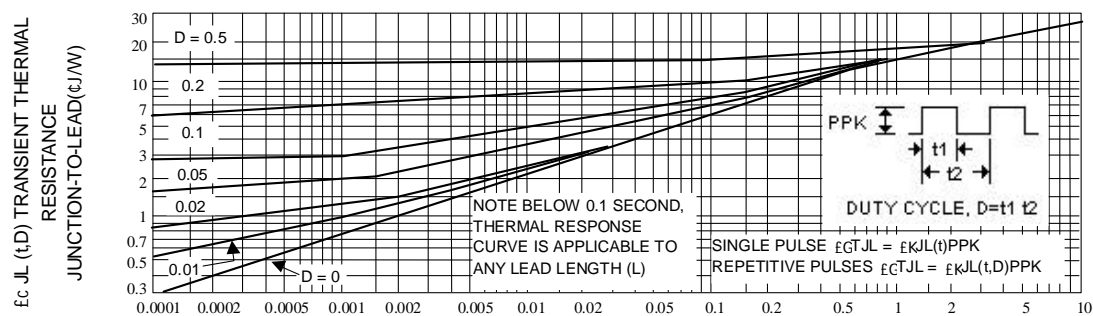
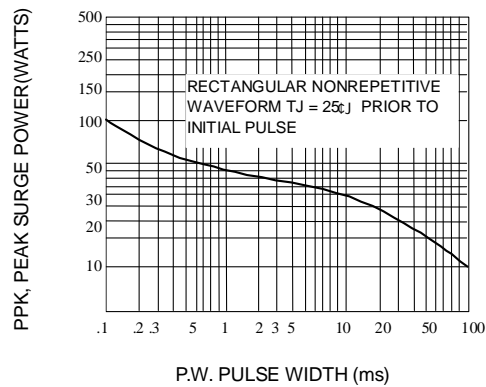
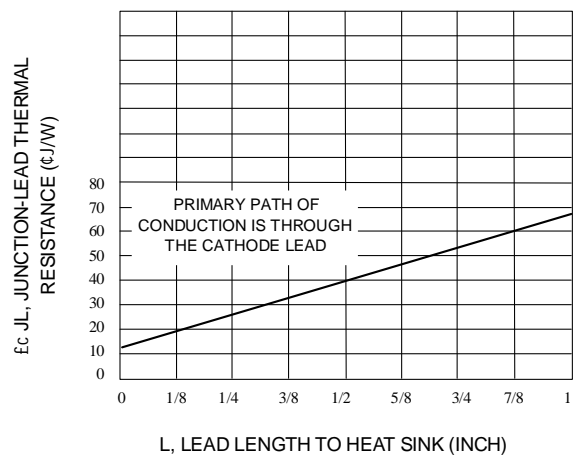

Fig. 2-TYPICAL THERMAL RESPONSE L,
Fig. 3-MAXIMUM SURGE POWER
Fig. 10-TYPICAL THERMAL RESISTANCE
4. SURGE CURRENT ( $I_r$ ) NON-REPETITIVE - The rating listed in the electrical characteristics table is maximum peak, non-repetitive, reverse surge current of 1/2 square wave or equivalent sine wave pulse of 1/120 second duration superimposed on the test current,  $I_{ZT}$ , per JEDEC standards, however, actual device capability is as described in Figure 3.
$\theta_{JT}$  is the increase in junction temperature above the lead temperature and may be found from Figure 2 for a train of power pulses or from Figure 10 for dc power.
Data of Figure 2 should not be used to compute surge capability. Surge limitations are given in Figure 3. They are lower than would be expected by considering only junction temperature, as current crowding effects cause temperatures to be extremely high in small spots resulting in device degradation should the limits of Figure 3 be exceeded.